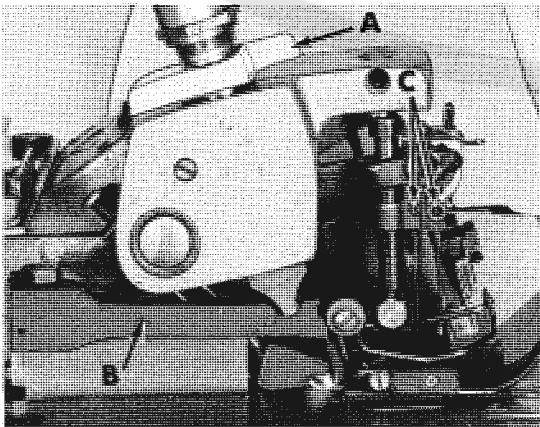

Fig. 1
Release pressure on presser foot by turning presser foot release lever (A, Fig. 1) and swing presser arm (B) out of position. With needles at high position, loosen screws (C) in needle head and withdraw needles.
To replace needles, insert same into needle head as far as they will go, assuring that the scarf of the needles are to the rear, tighten screws (C, Fig. 1) securely. Return presser arm (B) to position; lock presser foot release lever (A).